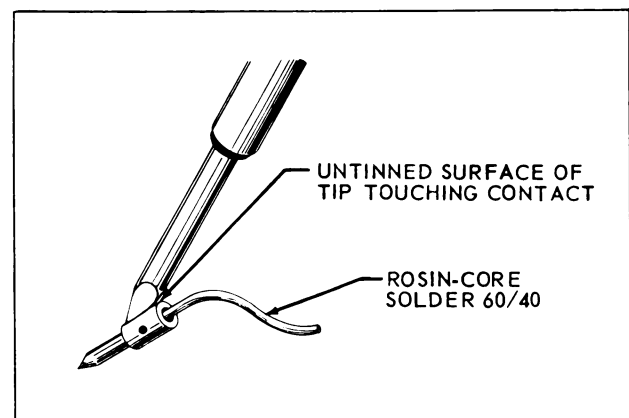

Figure 4-11. Tinning Inside of Contact
4-22. Tin inside of contacts (male or female) with soldering iron, as shown in Figure 4-11. (Use untinned face of tip to prevent depositing solder on outside of contact.)
i. Tin inside of contact (male or female) as shown in Figure 4-11.